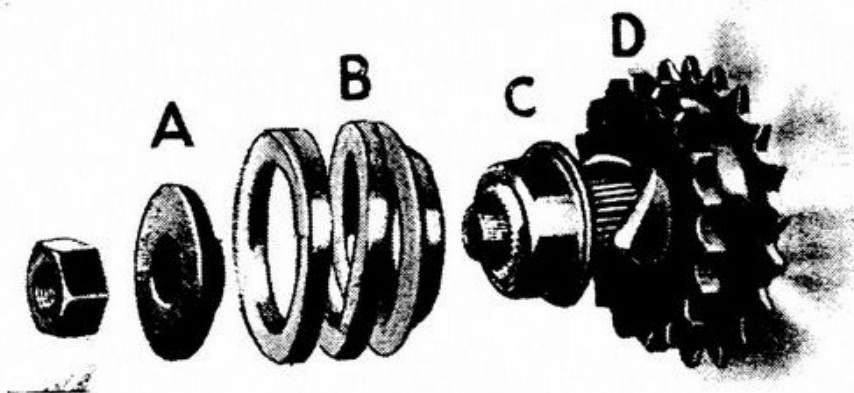

FIG. 13. THE ENGINE SHAFT SHOCK ABSORBER.
Undo, but do not remove, the nut on the nearside end of the crank shaft and tap the large washer (A, Fig. 13) until it is free on its taper, when it may be removed. Take off the spring (B), the splined member (C) and the sprocket (D).